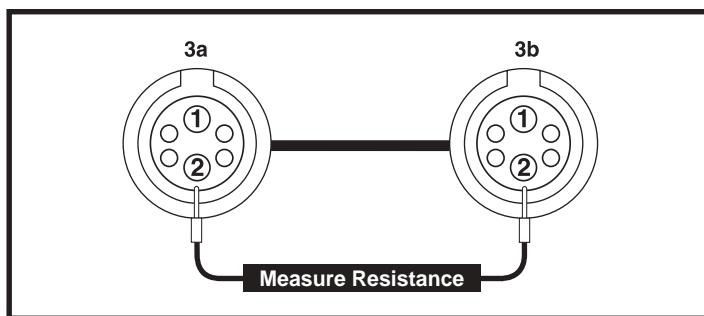

Figure 31. Connectors 3a and 3b
20. Measure resistance from pin 2 on connector 3a to pin 2 on connector 3b. **See figure 31.**
- If your multimeter indicates greater than 1 ohm for either test, then replace the Redel cable (3) and retest the system.
- If your multimeter indicates less than 1 ohm for both tests, then replace the Remote Plus joystick (1) and retest the system.